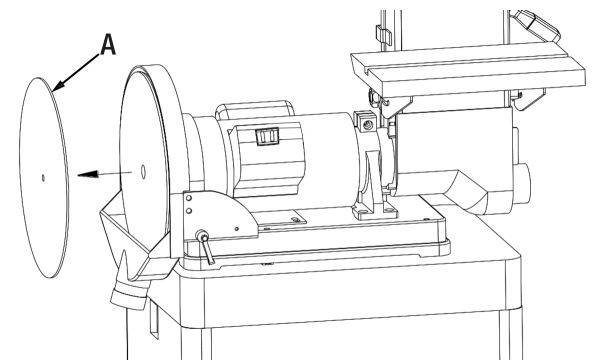

Figure 15
3. Peel the sanding disc (A) Fig.15 off the sanding wheel. Remove the peel away backing on the back of the new adhesive sanding disc and carefully stick it onto the sanding wheel. Rotate wheel half a turn and stick the other half of the sanding disc.